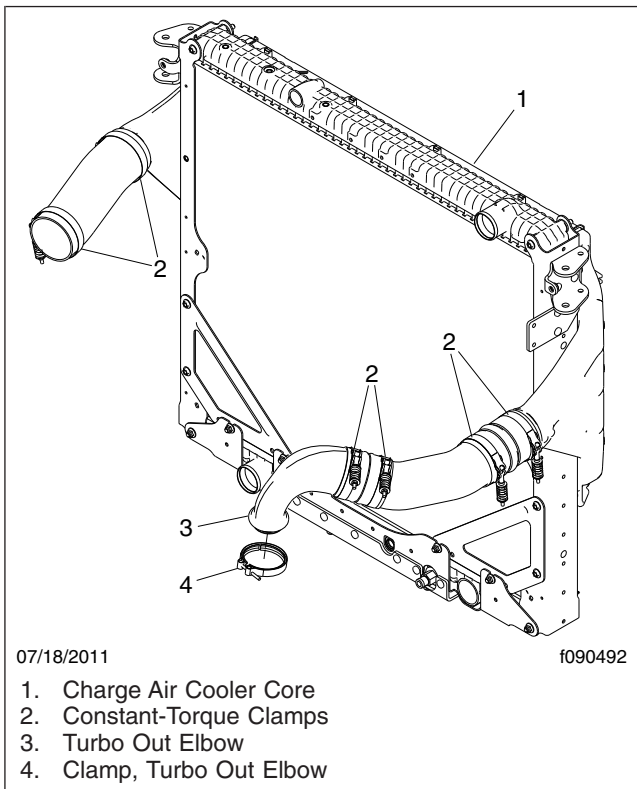

Fig. 14, Charge Air Cooler and Piping
1. Check the condition of the charge air cooler piping and clamping hardware. If damaged, replace components and carefully reassemble it to ensure proper penetration and alignment. Tighten the constant-torque clamps 98 lbf-in (11 N-m), and the turbo-out-elbow clamp 62 lbf-in (7 N-m). See Fig. 14.